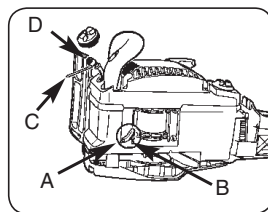

Fig. 16
1. Disconnect oil hose (A) from pump fitting (B).
2. Use a wire with a hook (C) and pull oil filter (D) from tank. Remove filter and hose completely.
5. Cut hose to fit and push it on to oil pump fitting (Fig. 16).